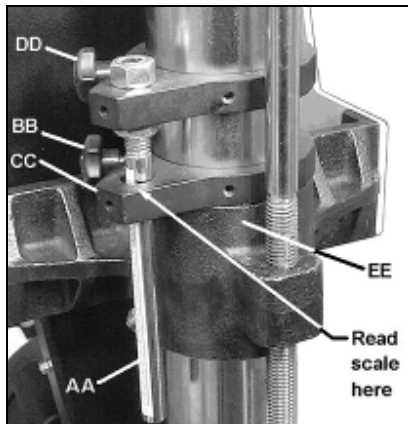

Fig 12
Lower the gauge support (CC, Fig 12) until it rests on the table support (EE).